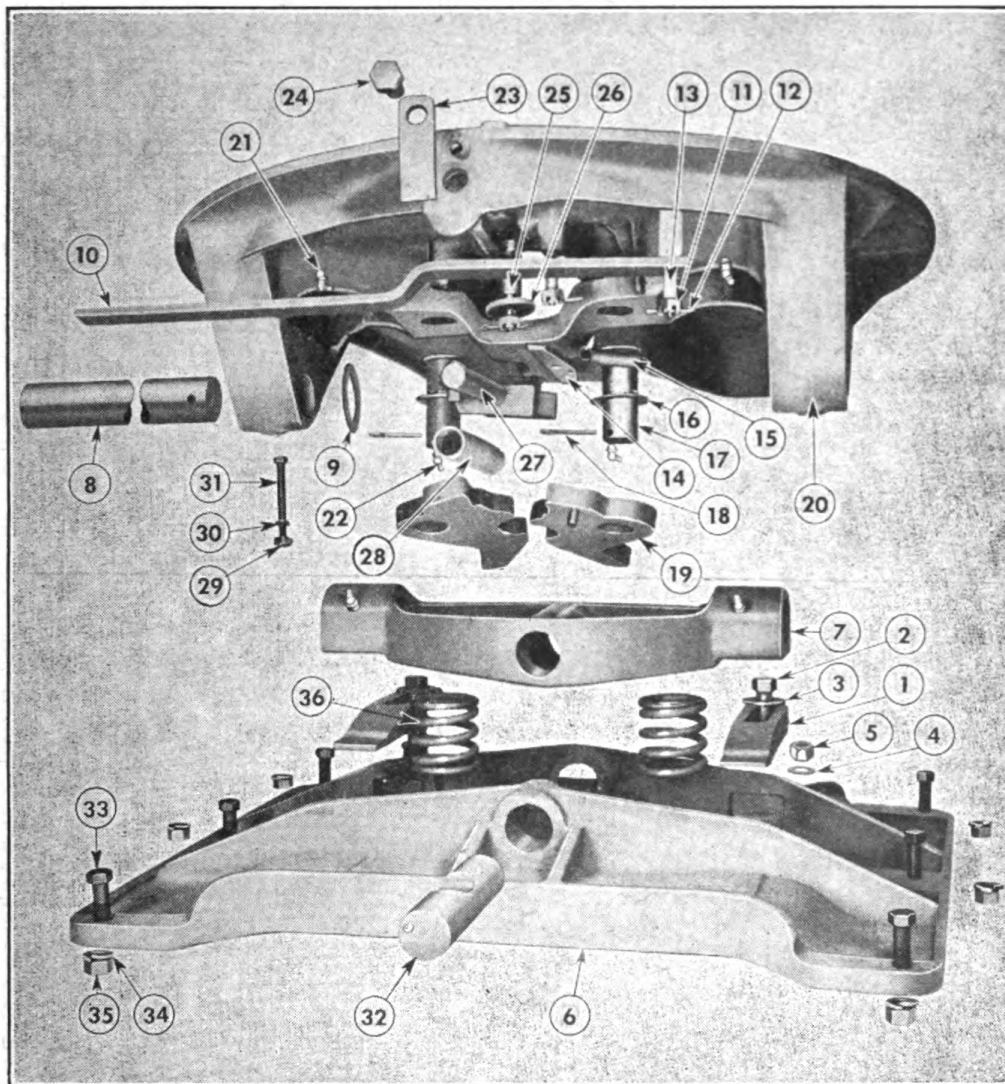

FIGURE 50. COUPLER—EXPLODED—TOWING VEHICLE.
5. **COUPLER MOUNTED ON TOWING VEHICLE** (Fig. 50).—*a. General.*—Lower coupler (5th wheel) is of a semi-automatic universal type, equipped with two heavy coil springs (25) which hold 5th wheel base at a level position when disengaged from trailer.